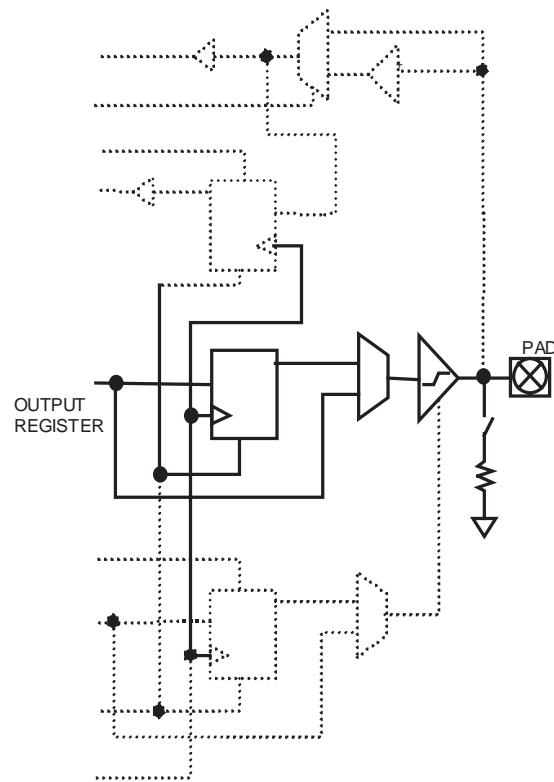
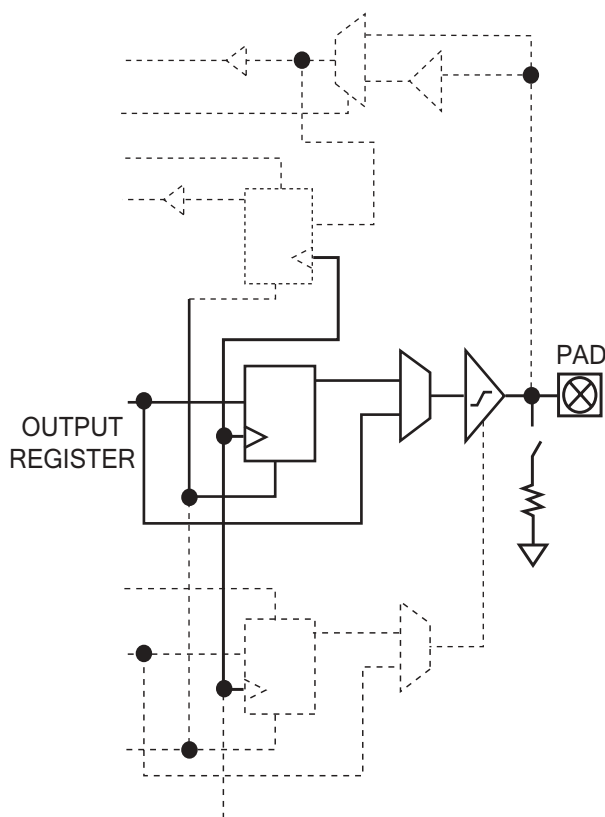

Figure 23: Eclipse-II Cell I/O
Figure 26: Eclipse-II Output Register Cell
a. The data provided in **Table 8** and **Table 9** are JEDEC and PCI Specifications. QuickLogic devices either meet or exceed these requirements. For data specific to QuickLogic I/Os, see preceding **Table 20** through **Table 24**, **Figure 7** through **Figure 9**, and **Figure 23** through **Figure 26**.